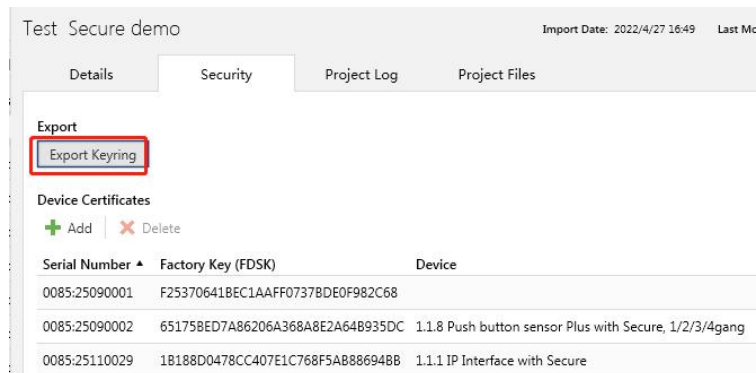

Fig. 5.1(8)
Keys and passwords can be exported as needed to the use of security keys outside of the associated ETS projects. As shown in Fig.5.1(8) below, the file extension is .knxkeys.